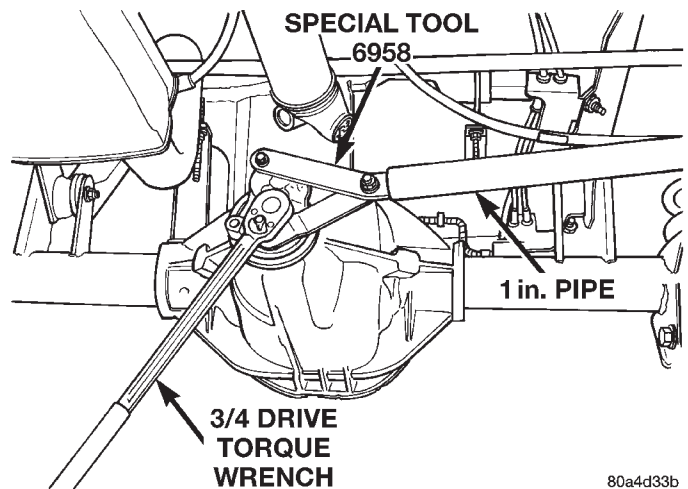

Fig. 57 Tightening Pinion Nut
(10) Using yoke holder 6958, a short length of 1 in. pipe, and a torque wrench set at 380 N·m (280 ft. lbs.), crush collapsible spacer until bearing end play is taken up (Fig. 57).